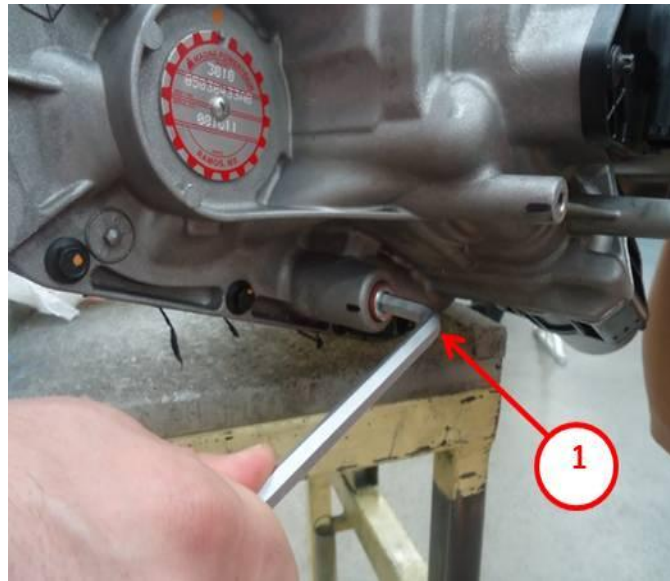

Fig. 3 Removing Transfer Case Drain Plug
3. With an 8 mm Allen Wrench, remove drain plug (Fig. 3).